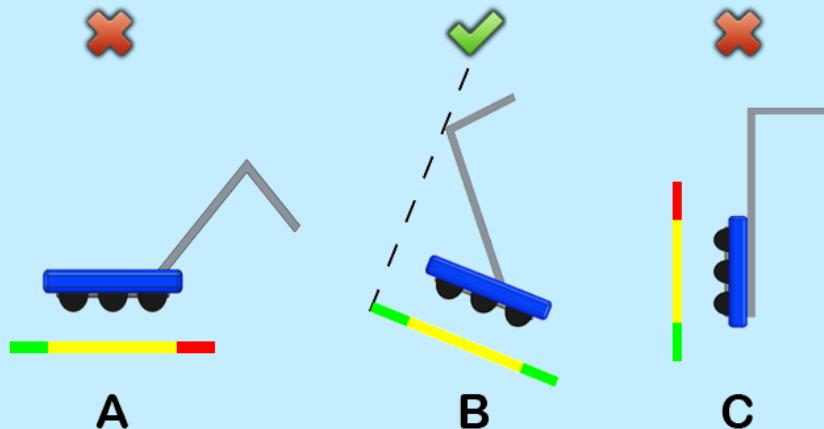

Figure 8-2 Examples of G24 compliance and non-compliance.
**G24. Don't overextend yourself.** ROBOTS may not extend more than 30 in (~76 cm). beyond their FRAME PERIMETER (see Figure 8-2).
Examples of compliance and non-compliance of G24 are shown in Figure 8-2.